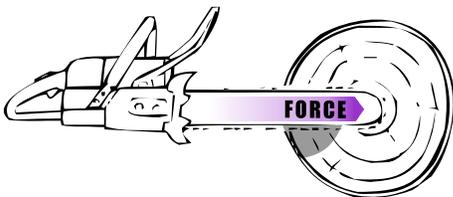

Figure 17: Bore at full throttle
4. With the saw at full throttle, insert the guide bar in the trunk. If possible, support the saw against your legs. (Fig. 17)